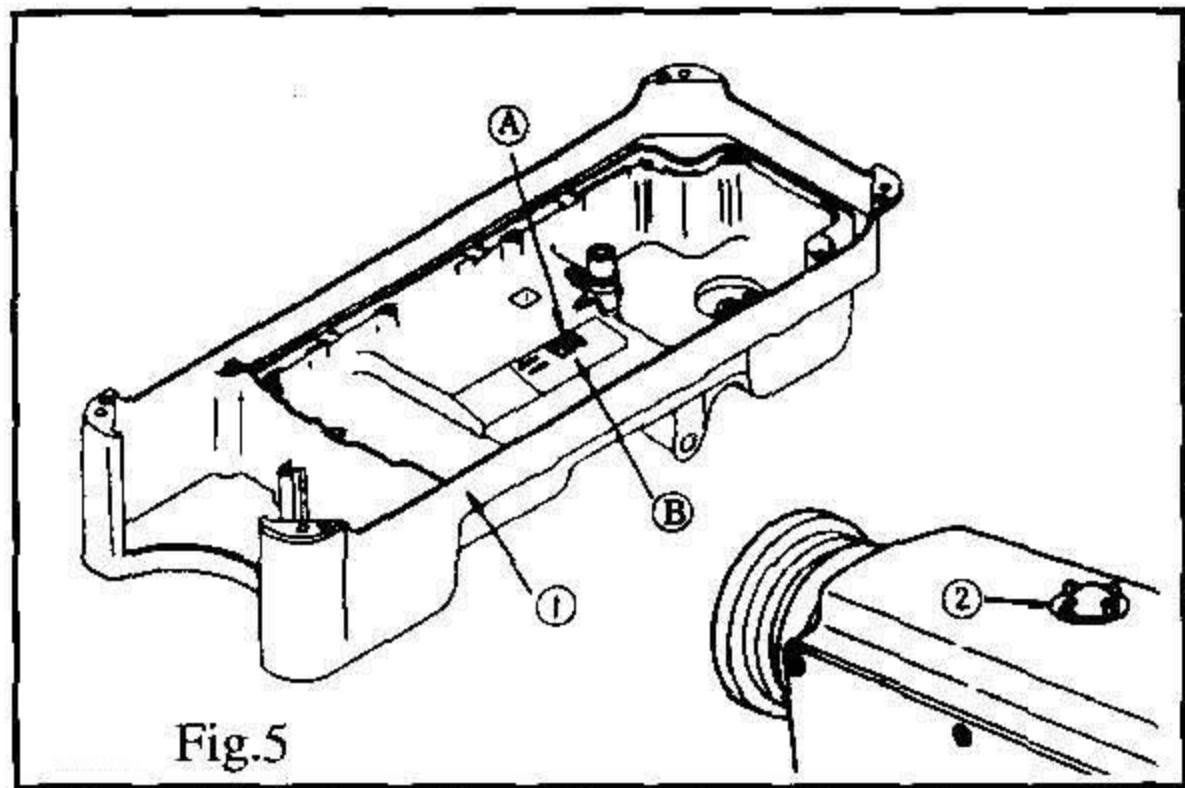
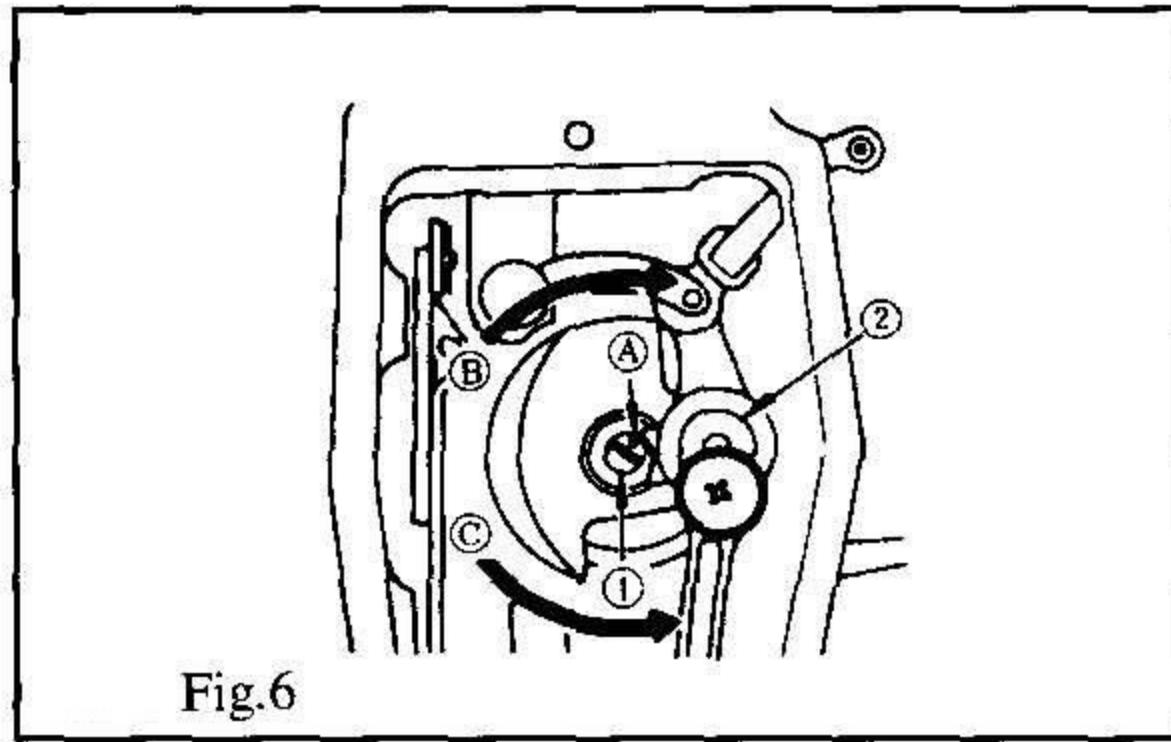

Fig.5
Fig.6
LUBRICATION (FIG. 5, FIG. 6)
1. Information on lubrication (Fig.5)
2. Adjusting the amount of oil supplied to the face plate parts (Fig.6)